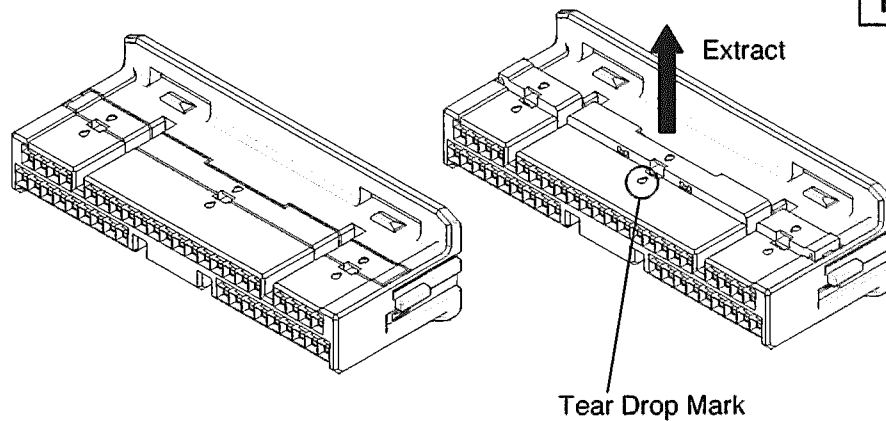

Fig.11
- (1) Insert the jig, 1mm blade screwdriver, into the window of the retainer pointed by the tear drop mark. See Fig.11(next page).
- (2) Draw out the retainer, about 1mm, to pre-assembled condition. Confirm that all of the projection is unlocked. See Fig.11(next page).